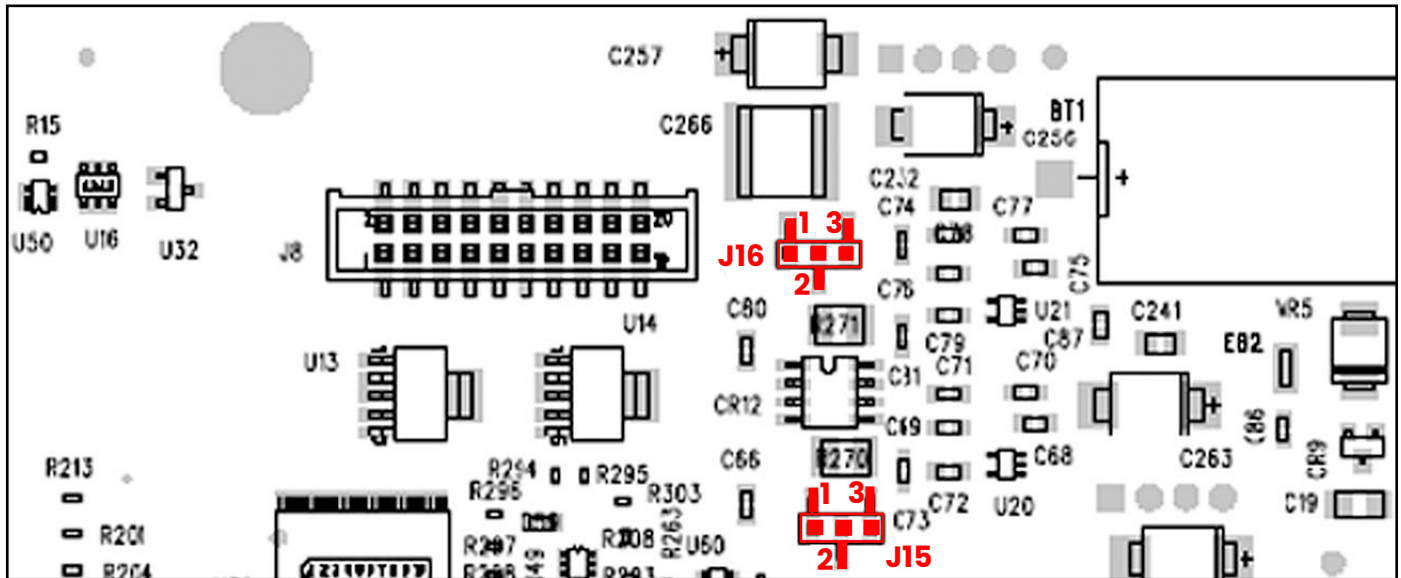

Figure 27: RS-485 Mode Termination - Install Jumpers at J15 and J16, Pins 1 and 2
- b. Using long-nose pliers, move jumpers J15 and J16 from pins 2 and 3 (default setting from factory) to pins 1 and 2 (see *Figure 27* on page 27). J16 is the termination for port 1 and J15 is the termination for port 2. It is also recommended that basic ESD precautions such as grounded wrist straps be used for this procedure.
For multiple Aurora H2O units connected in daisy-chain fashion to the RS485 interface, it is important that the farthest unit away from the transmitting device be the only unit incorporating any termination (see *Figure 27* on page 27). All other units must have jumpers J15 and J16 in positions 2 & 3 (default setting from the factory). For more details on RS-485 wiring or operation, refer to TIA/EIA-485-A Specification.